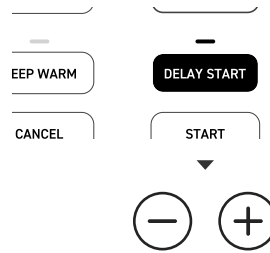

Figure 9.1
- Press the **-** or **+** buttons to adjust the delay start timer from 10 minutes (00:10) to 24 hours (24:00). [Figure 9.1]